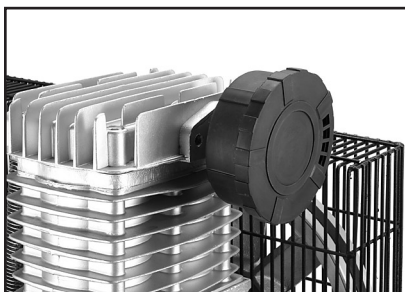

Figure 4. Air filter attached to cylinder head.
4. Attach the air filter to the cylinder head as shown in **Figure 4**.